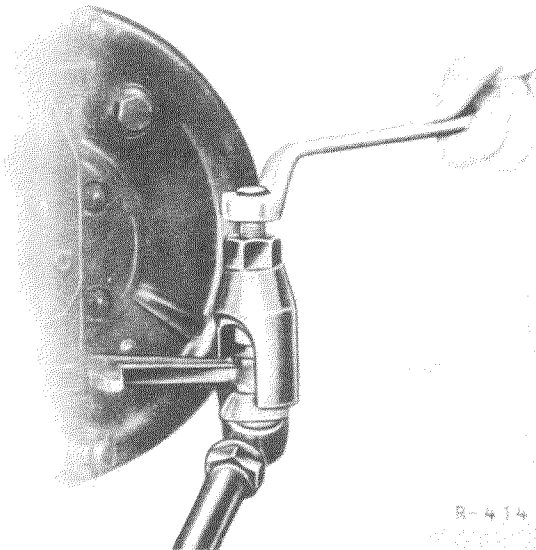

Fig. 33—6/2
2. Press off the ball heads with Bell-shaped Puller 186 589 10 33 (Fig. 33—6/2).
3. Take off the seal covers (8) and the rubber cuffs (9) (see Fig. 33—6/3).
Note: The ball heads cannot be repaired because the plug (7) is machine-rolled into the ball head. If there is any defect, the whole ball head assembly must be replaced (see Fig. 33—6/1).
5. Unscrew the ball heads out of the tie-rod tube. Take off the locking plate (3) and the clamping ring (2) (see Fig. 33—6/1).